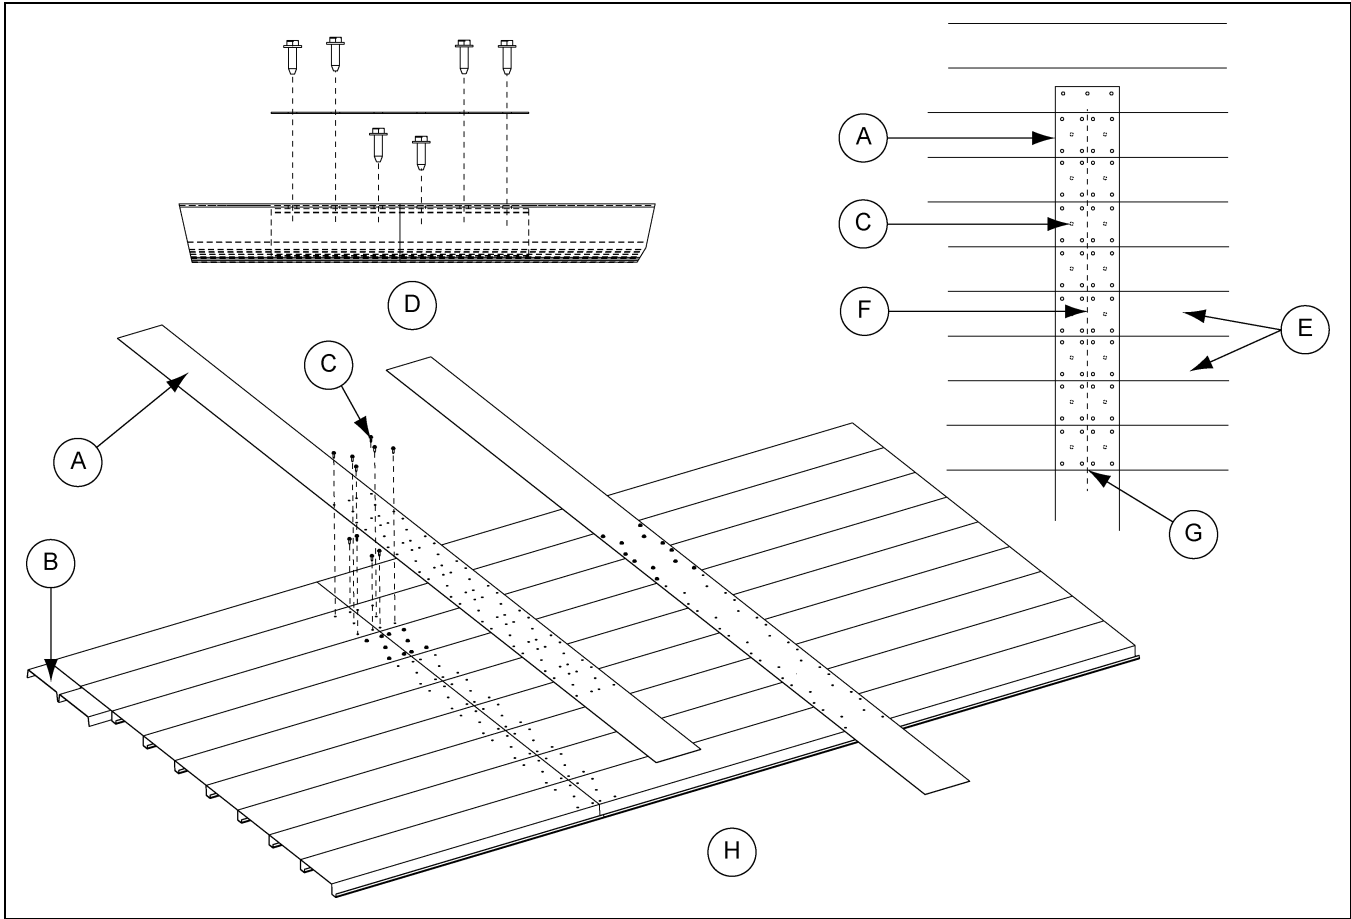

Figure 4G
- 2. Place the undersplice (B) under the planks. Make sure the undersplice (B) extends 3" across each plank.
- 3. Install the undersplice (B) to the planks using two (2) self-tapping screws (C) per splice to hold it in place. (See Figure 4G.)
- 4. Place the oversplice (A) over the length of the plank splice seams.
- 5. Install the oversplice (A) to the planks and undersplices (B) using three (3) self-tapping screws (C) per each undersplice.